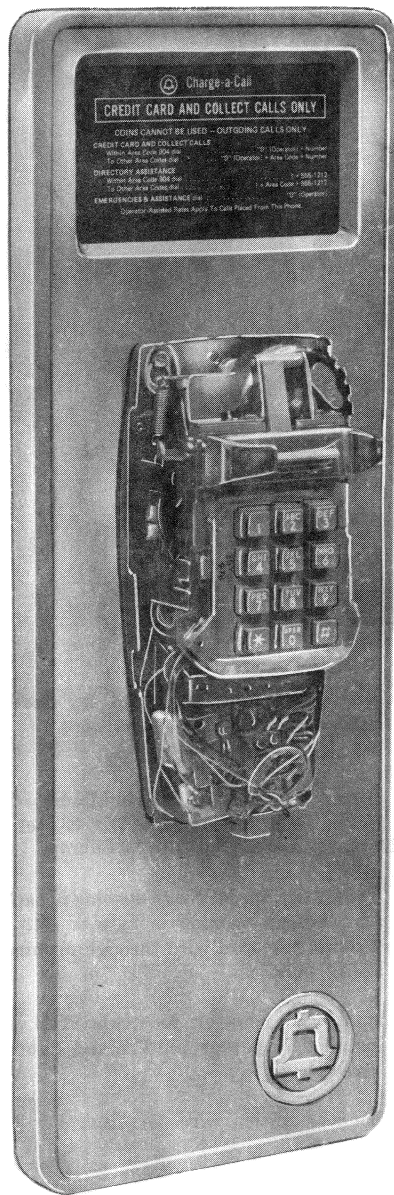

Fig. 13—Installing 2554-Type Telephone Set On Backboard
3.19 Install a 2554B-03 (MD), modified 2554BM-03 (MD), or modified 2554BMP-03 set on a KS-22284 backboard (Fig. 13) as follows.